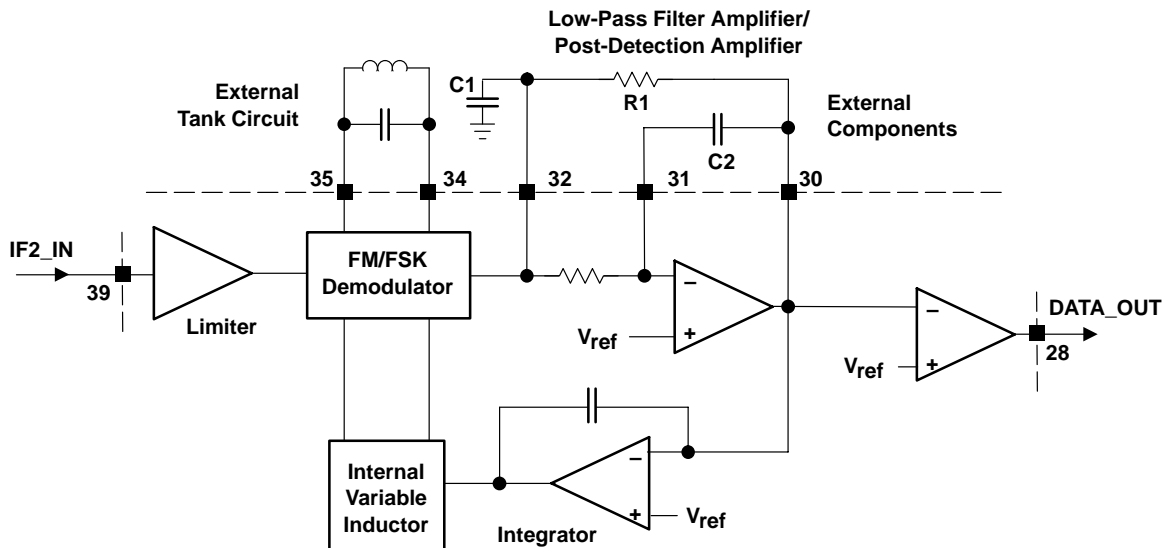

Figure 13. AFC Loop to Control the Data Slicer Decision Threshold
The demodulator is intended for analog (FM) and digital (FSK) frequency demodulation. It consists of a quadrature demodulator with an external LC tank circuit. A variable inductor, internal to the TRF6900A, operates in parallel with the external tank circuit (see Figure 13), and is used to adjust the external tank circuit's resonant frequency. If the tolerances of the external demodulator tank circuit components can provide a maximum frequency error of less than 5%, then no additional adjustments are required. As long as the device is in the *learning mode*, the internal reactance automatically fine-adjusts the resonant frequency of the external LC tank circuit. Depending on the supply voltage, the tank circuit tuning range is approximately four times the discriminator 3-dB bandwidth.
The data slicer is fundamentally a comparator. The data slicer provides binary logic level signals, derived from the demodulated and low-pass filtered IF signal, that are able to drive external CMOS compatible inputs. The noninverting input is directly connected to the internal reference voltage,  $V_{ref}$ , and the inverting input is driven by the output of the low-pass filter amplifier/post-detection amplifier. The decision threshold of the data slicer is determined by the internal reference voltage,  $V_{ref}$ . The automatic frequency control (AFC) loop scheme for the TRF6900A is shown in Figure 13.